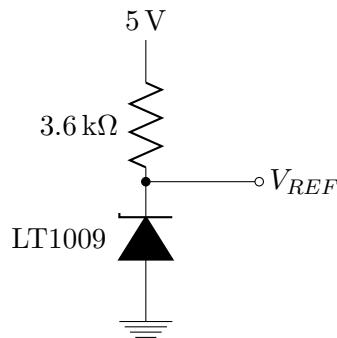

Figure 10: Schematic of the LT1009 precision voltage reference circuit.
1. Build circuit shown in Fig. 10 on your breadboard.